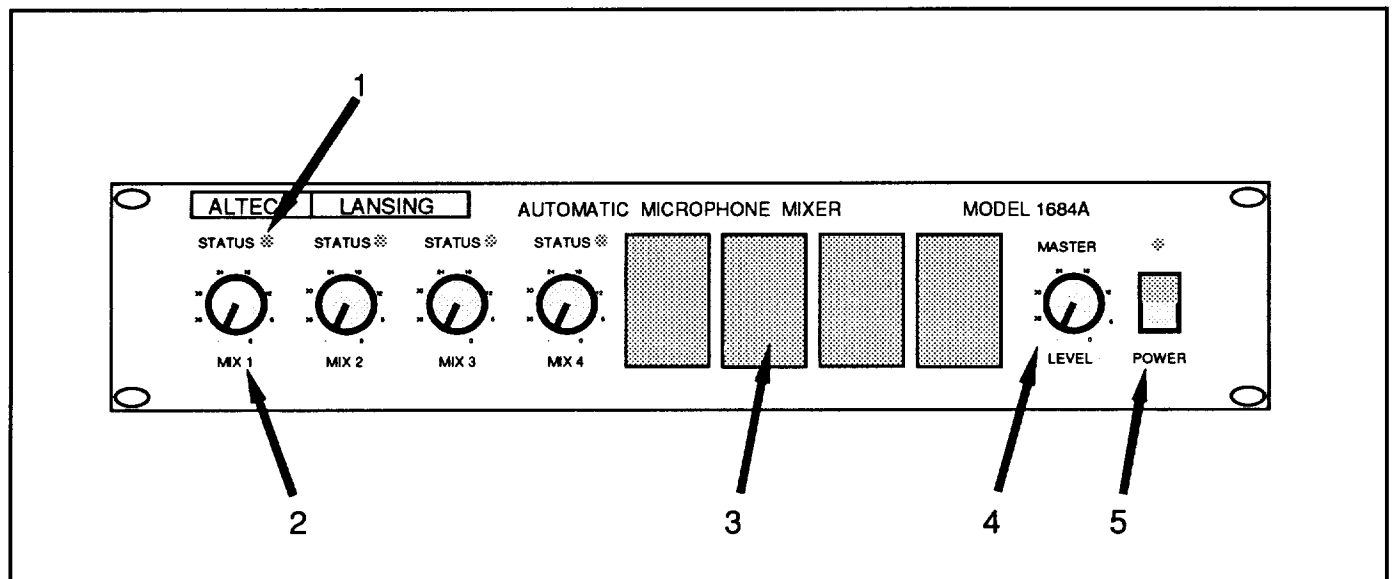

Figure 6: Front Panel Features.
3.1 Front Panel Features (Refer to Figure 6)